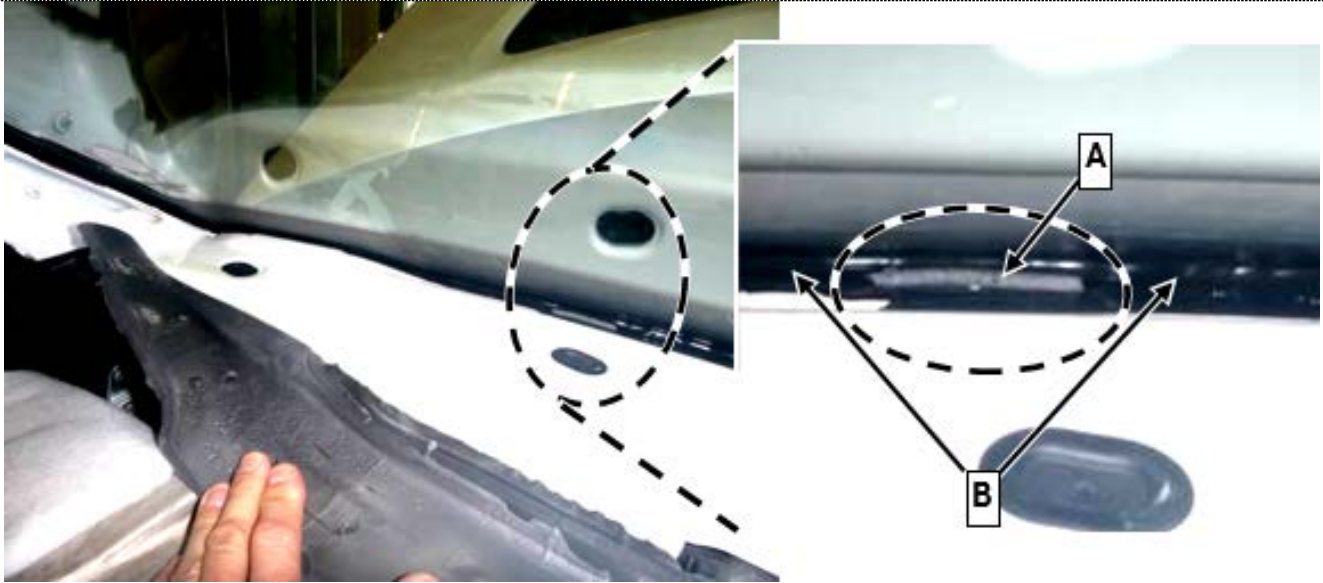

Figure 2 (Not OK)
**i** There must be no part of the damping (A) that is bonded into the adhesive bead (B) for the windshield. Figures 2 and 3 show a **not** OK condition.
**i** If the damping (A) is bonded into the adhesive bead (B, figure 2) for the windshield, obtain a **repair approval via PTSS case** and include conclusive photographs.